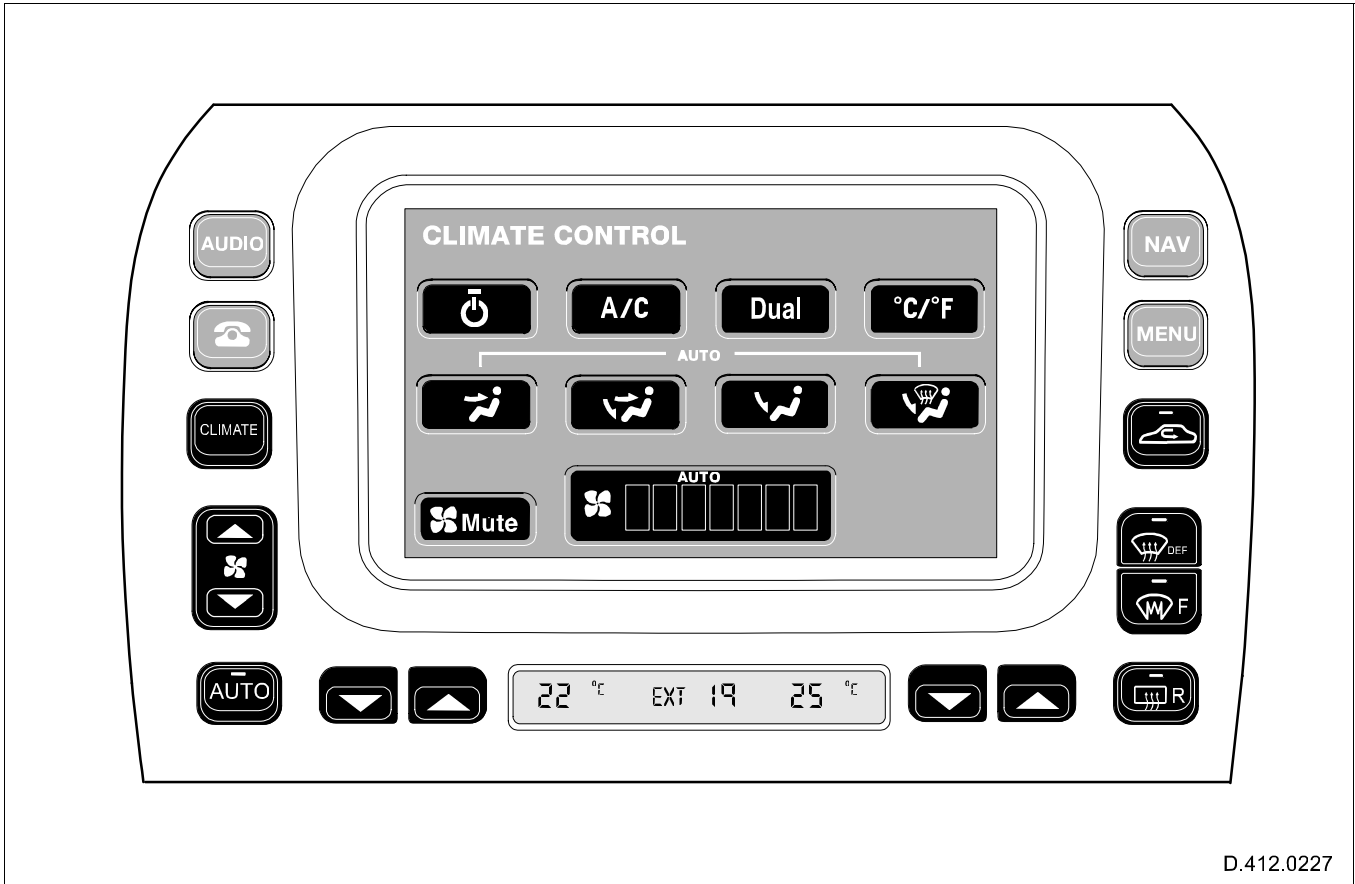

Fig. 74 Climate control buttons
- Control panel with touch-screen (telematics display module) and remote climate control module (**Fig. 74**).